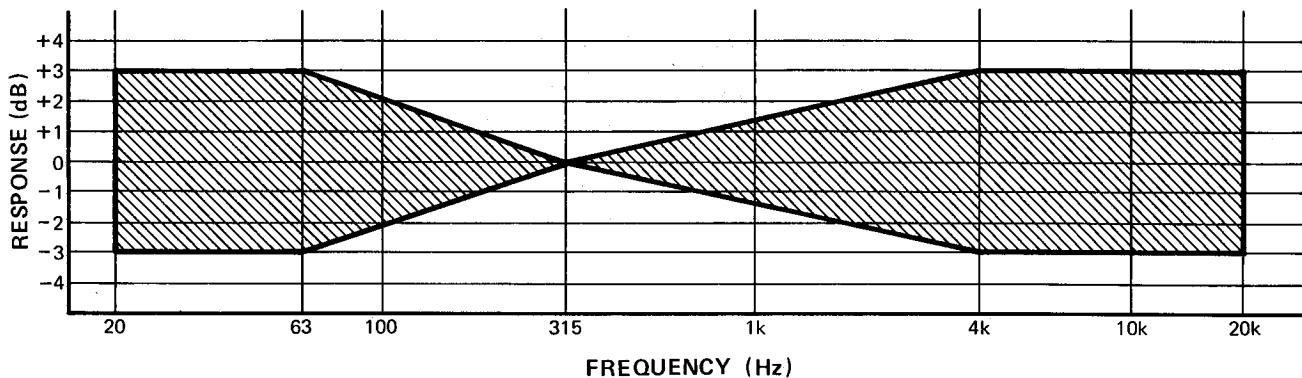

Fig. 7
6. If the above frequency response is not within shaded area of Fig. 7, adjust VR309 (left), VR310 (right), L301 (left peaking) and L302 (right peaking) until the frequency response as shown in Fig. 7 is obtained on the V.T.V.M. 2.
9. If the above frequency response is not within shaded area of Fig. 7, adjust VR303 (left) and VR304 (right) until the frequency response as shown in Fig. 7 is obtained on the V.T.V.M. 2.
12. If the above frequency response is not within shaded area of Fig. 7, adjust VR305 (left) and VR306 (right) until the frequency response as shown in Fig. 7 is obtained on the V.T.V.M. 2.
15. If the above frequency response is not within shaded area of Fig. 7, adjust VR307 (left) and VR308 (right) until the frequency response as shown in Fig. 7 is obtained on the V.T.V.M. 2.